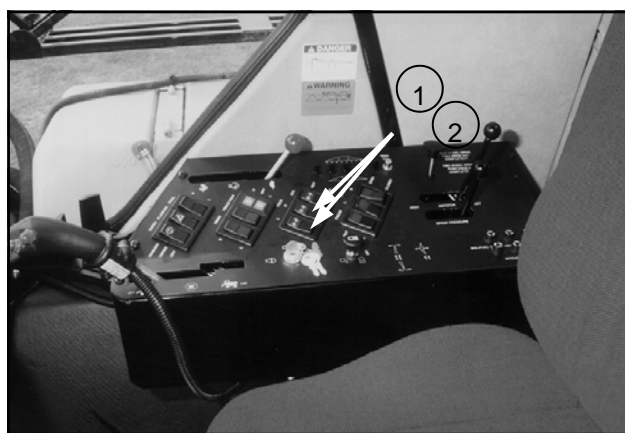

FIG 5.15
HORIZONTAL BOOM FOLD - To fold either boom horizontally in toward the machine or out away from the machine, depress the “IN” or “OUT” of either or both “BOOM FOLD” switches (fig. 5.15, items 1 & 2). While depressed, these switches activate cylinders connecting either boom breakaway mount to the transom (fig. 5.14).